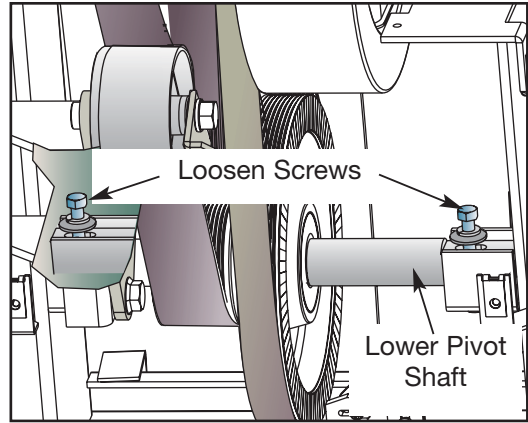

Figure 15
- A. Using a 7/16" socket wrench, loosen the two screws on the lower pivot shaft until the screws are raised 1/2" (1.25 cm) above the screws on the lower pivot shaft. See Figure 15. **NOTE:** The drive belt tension is now released.